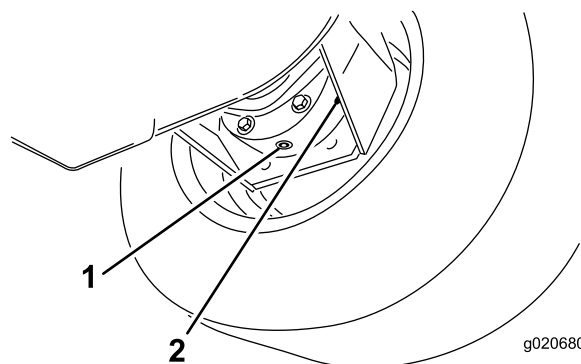

Figure 93
3. Place a drain pan under the brake housing, remove the drain plug, and allow the oil to drain (Figure 93).